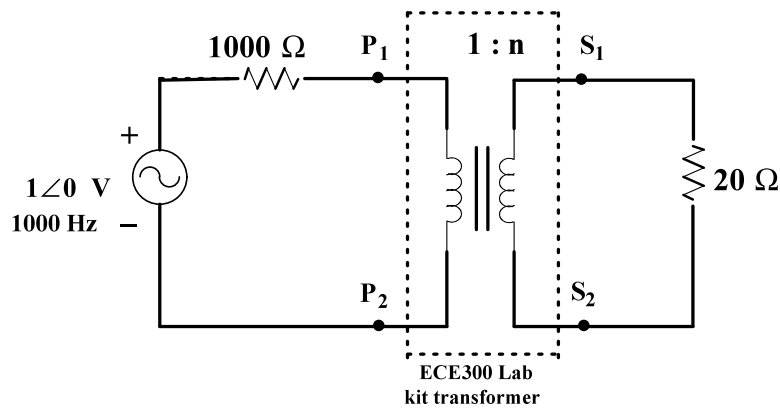

Figure 4.21 Circuit connection for Part 5PE.
- (a) Consider the circuit shown in Figure 4.21. Calculate the total resistance the source will see, to the right of  $P_1$ - $P_2$ , after the  $20\ \Omega$  load resistance and the  $15\ \Omega$  resistance in the  $S_1$ - $S_2$  coil are reflected to the source side of the transformer and the  $200\ \Omega$  present from the source side of the transformer is added to the reflected resistance.